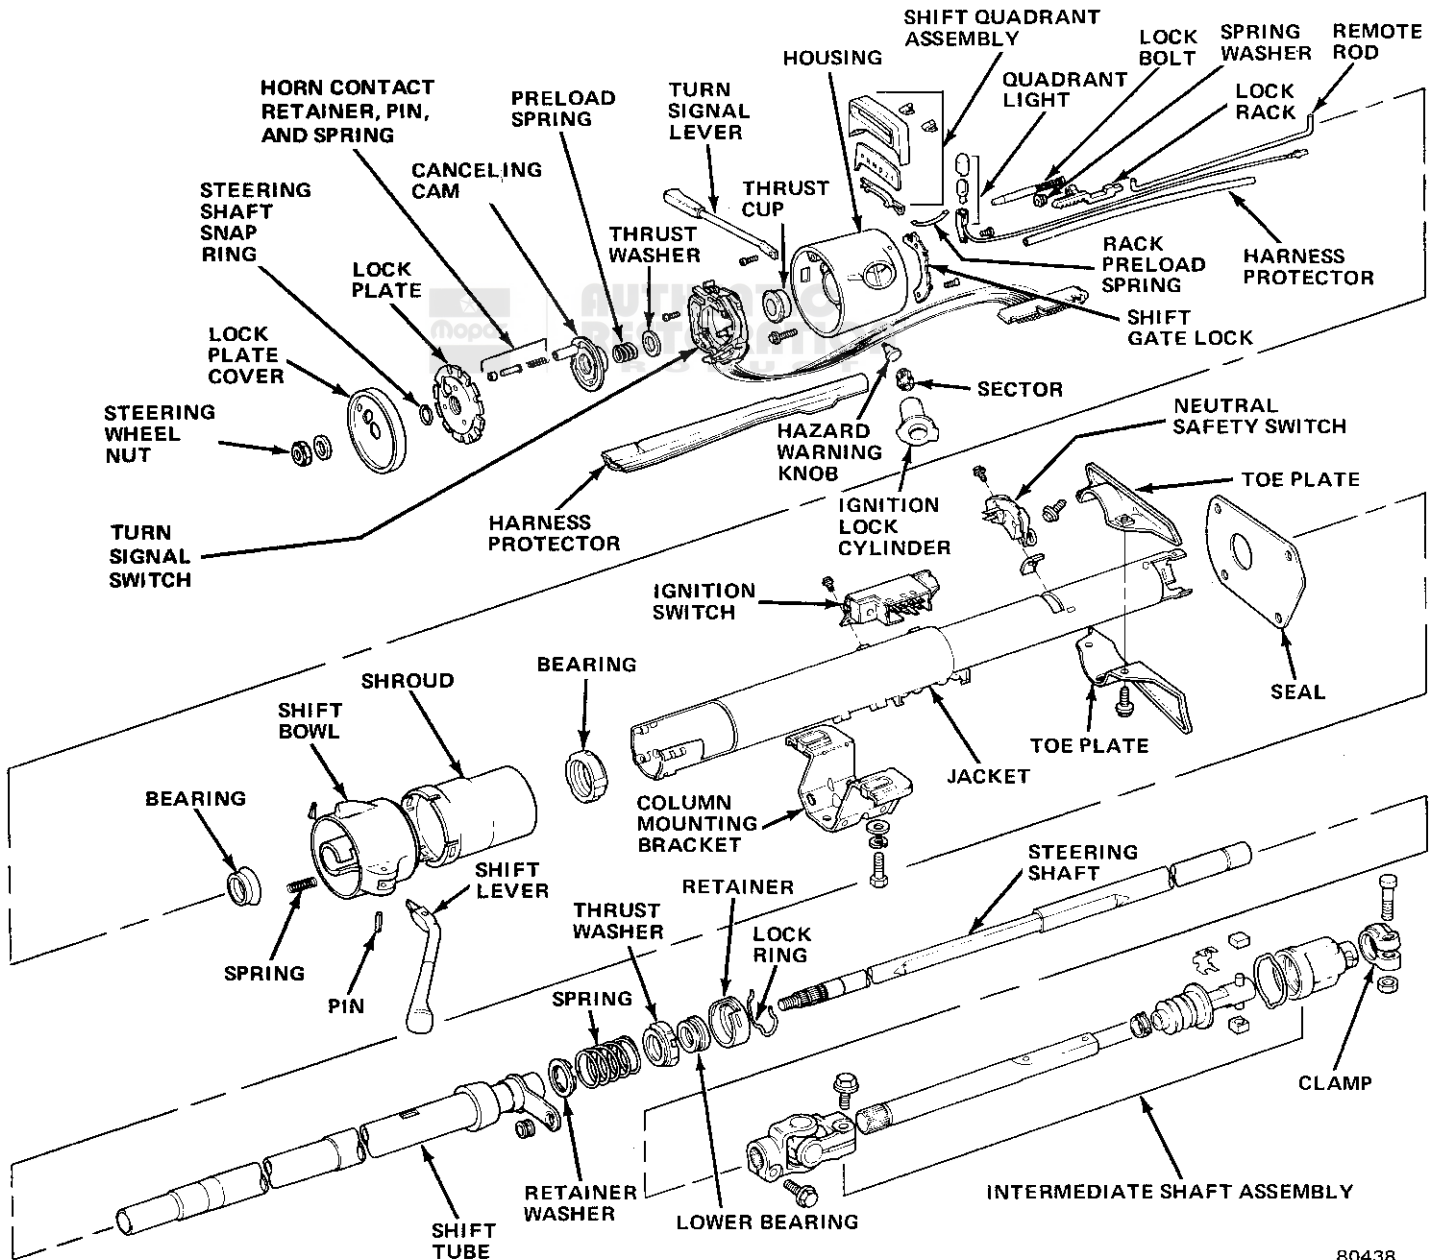

Fig. 2J-26 Steering Column—Automatic Transmission
- (1) Disconnect battery negative cable.
- (2) Place front wheels in straight-ahead position.
- (3) Remove column-to-instrument panel bezel and left air conditioning duct if equipped.
- (4) Cover painted areas of column.
- (5) Remove steering wheel (fig. 2J-1).
- (6) Remove lock plate cover. Use two screwdrivers to pry cover off lock plate and out of housing.
- (7) Compress lock plate and unseat steering shaft snap ring as follows:
(a) Inspect and identify steering shaft nut thread type. Metric shafts have identifying groove in steering wheel locating splines (fig. 2J-2). American thread shafts do not have this groove.
(b) If shaft has American threads, use Compressor Tool J-23653, as is, to compress lock plate and unseat snap ring (fig. 2J-6).
(8) Remove lock plate compressor tool and remove steering shaft snap ring. Discard snap ring.
(9) Remove lock plate, canceling cam, upper bearing preload spring, and thrust washer (fig. 2J-26).
(10) On vehicles without Cruise Command, remove turn signal lever attaching screw and remove lever.
(11) On vehicles with Cruise Command, remove wires from switch terminal. Fold two of four wires back along harness. Tape wires in place and tape length of string to harness to aid removal.
(12) Push inward on hazard warning switch knob and unthread knob in counterclockwise direction.
(13) Place gearshift lever in Park position. Remove lever retaining pin using punch and remove lever.
(14) Unhook turn signal switch wire harness connector from column.